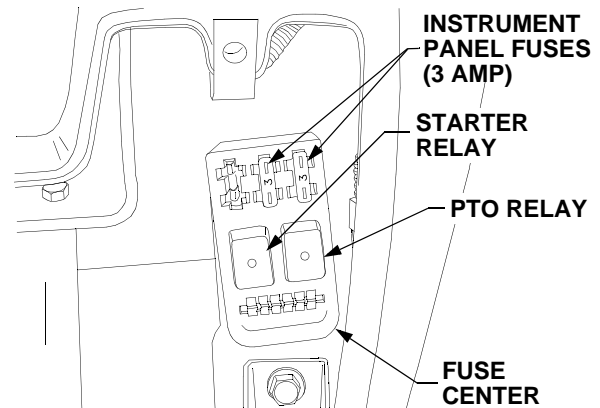

Figure 41
- Pull the two fuses from the fuse center and check their condition. Replace a blown fuse with the same capacity fuse (3 Amp). Refer to Figure 41.
The PTO relay and start circuit relay, located in the fuse center, maintain power to each of those circuits. If one of the circuits is not functioning properly, have your dealer electrically check the relay. See Figure 41.